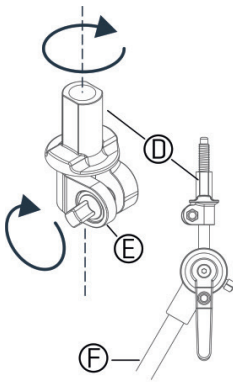

Figure 1
- 5 Secure the cymbal seat (D) by fastening screw (E) as shown in *Figure 1*.
- 6 Screw felt and wing nut (A) onto the cymbal arm.